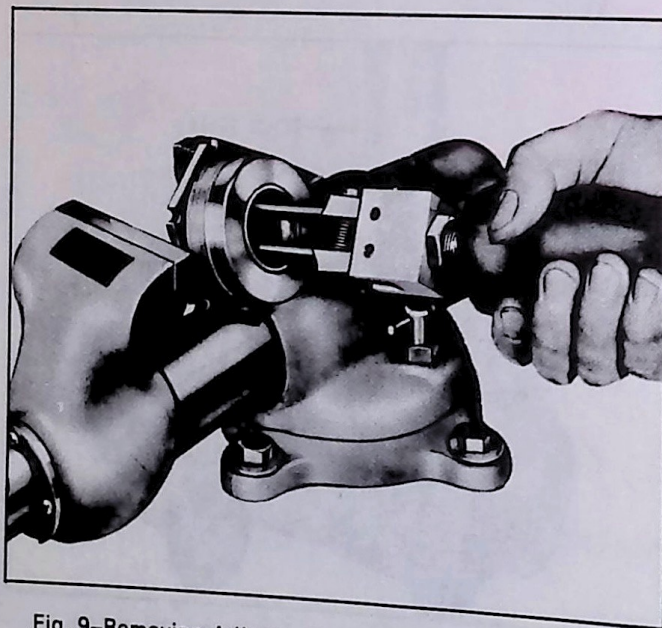

Fig. 9—Removing Adjuster Plug Bearing Race Using Tools J-5822 and J-2619
1. **All Except Corvette-** Remove the wormshaft bearing race using Tool J-5822 and Slide Hammer J-2619 as shown in Figure 9.